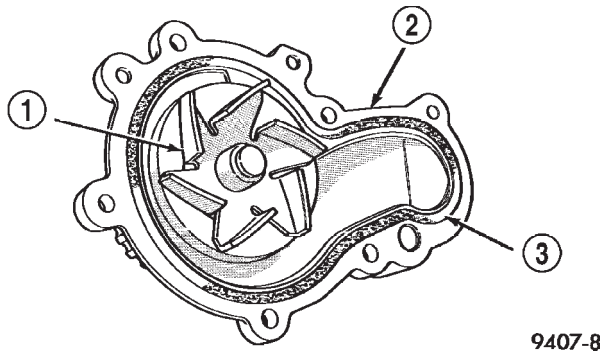

Fig. 20 Water Pump Body
- (1) Apply Mopar® Dielectric Grease to O-ring before installation.
- (2) Install new O-ring gasket in water pump body O-ring groove (Fig. 20).